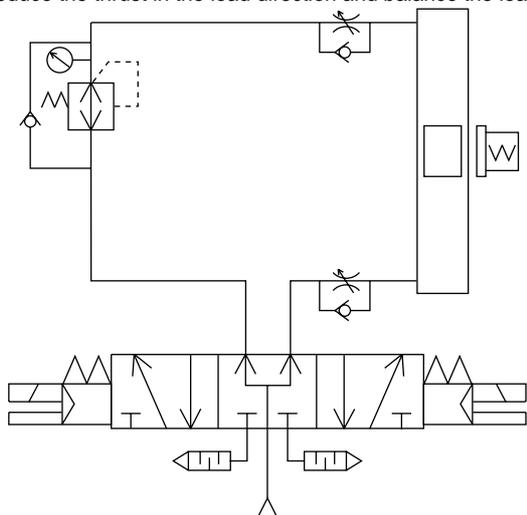

Fig.2
■ If a vertical load is applied as shown in Fig. 2, the table will move in the direction of the load. Thus, install a regulator with check valve to reduce the thrust in the load direction and balance the load.